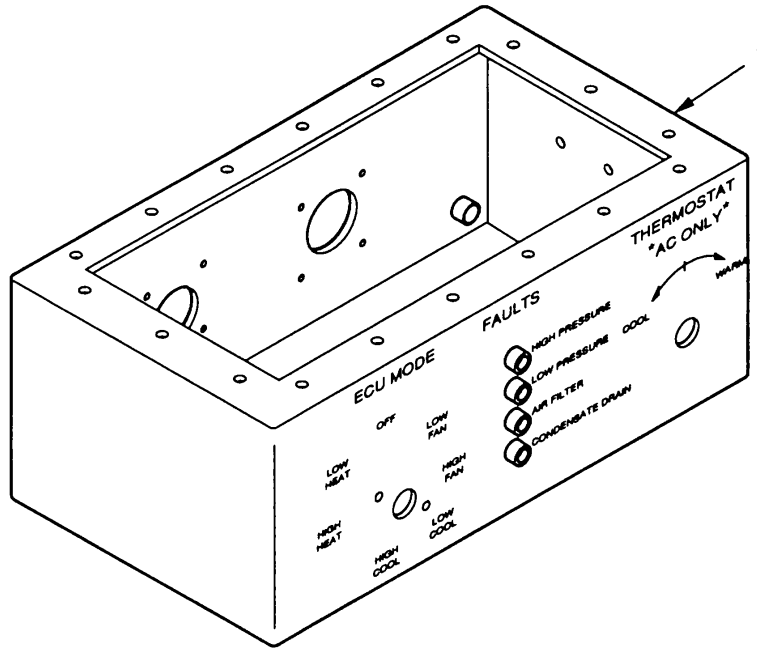

Figure 4-21. Control Module Housing Maintenance.
a. **Remove.** Placing the control module housing (Figure 4-21, 1) in the equipment conditions specified above will remove it from the air conditioner.
- (1) Inspect control module housing (1) for corrosion, cracks, bends, breaks, holes, missing blind nuts, or severe damage.
- (2) Refer to TM 5-625 and TM 5-745 for sheet metal repair procedures and repair control module housing assembly (1).
- (3) Replace damaged or missing blind nuts in control module housing (1).
- (4) Replace control module housing (1) if damage is severe enough to prevent repair which would protect internal components from environmental damage or permit proper EMI shielding.